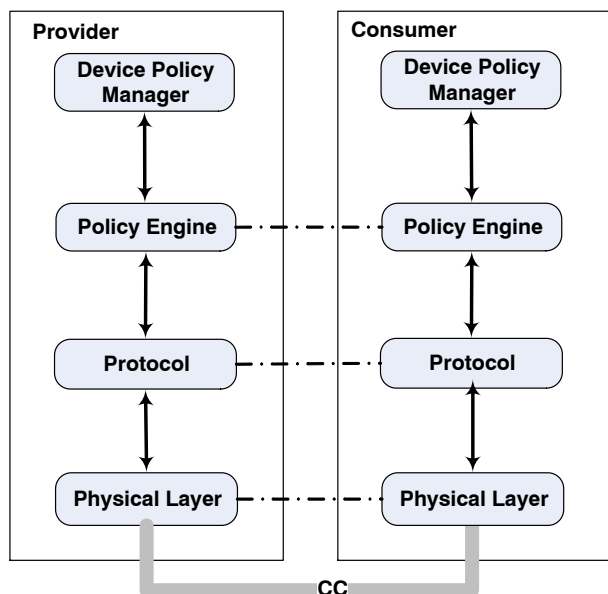

Figure 7. USB-PD Communication Stack
USB Power Delivery (PD) provides a way for a Source and Sink to negotiate output power settings, allowing for increased power delivery up to 100 W for Standard Power Range (SPR). USB PD uses the CC signal that is passed through the cable to provide the link between the Source and the Sink to send messages and commands. The communications stack consists of Physical, Protocol, Policy Engine and Device Policy Manager layers as shown in Figure 7 where each layer in the FUSB3317 talks to its corresponding layer in the Sink device.